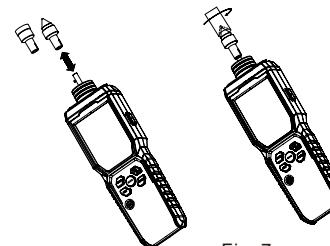

Fig. 7
3. Contact---Mesure RPM/Hz (Fig.7)